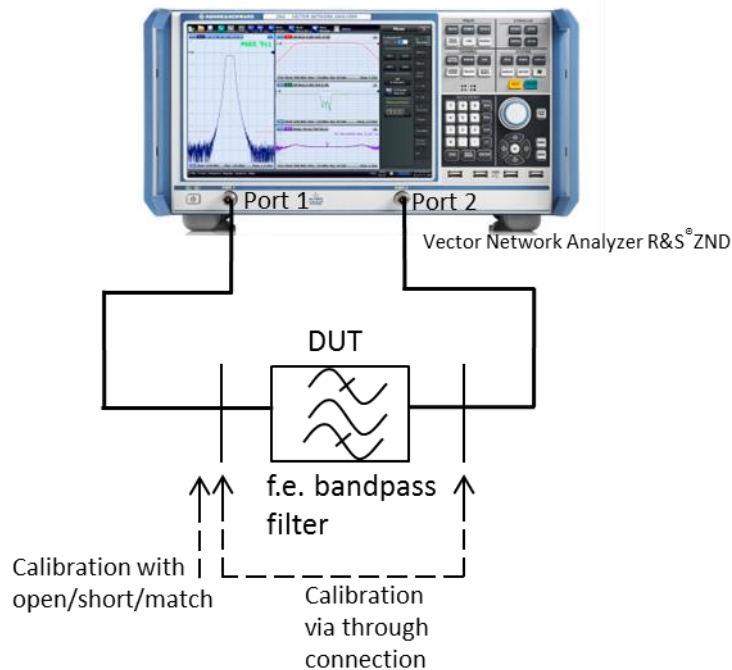

Fig. 2-18: Measurement of the filter characteristics using the ZND vector network analyzer.
As shown in Fig. 2-18 the test setup is calibrated before the measurement. For a vectorial measurement, the test cables must be through-connected, followed by three additional calibration steps. A short circuit, an open circuit and a high-precision 50 Ω resistor are used as calibration standards. It must be ensured that the correct calibration standard is connected to the cable end. The RF characteristics (essentially the reflection) of each standard are known, making it possible to calculate the associated correction values. Unlike with scalar measurements using the spectrum analyzer, the length of the through connection must be known because this will affect the phase measurement.
- Connect the filter between the two test cables as shown in Fig. 2-18.